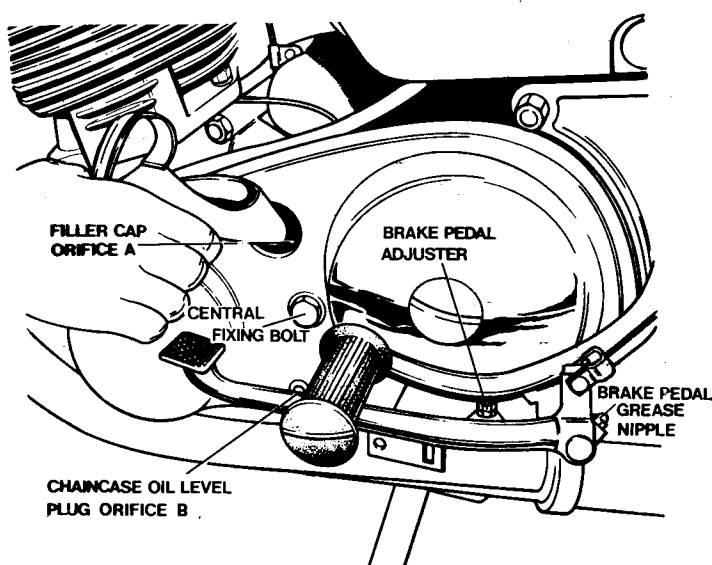

Fig. K8 Primary chaincase plugs
An oil level plug is fitted in the primary chaincase outer cover. (See Fig. K8). To check level, remove plug (see Fig. K8, item B) whereupon oil should seep gently out if correct. If topping up is necessary, remove the filler cap (see Fig. K8, item C) and replenish with correct grade of oil until the oil begins to seep from the level plug orifice. Replace the filler cap and the level plug.
Remove the footrest and place a metal tray under the chaincase. Unscrew the central fixing bolt (see Fig. K8) and break the joint to allow the oil to drain into the tray. Wash out the case with clean kerosene (paraffin). Refit the outer case and remove the filler cap, and level plug (B). Pour fresh oil into the filler cap orifice (C) until it begins to run from the level plug hole. Allow the surplus to drain off and refit the level plug and filter cap. Refit the footrest.